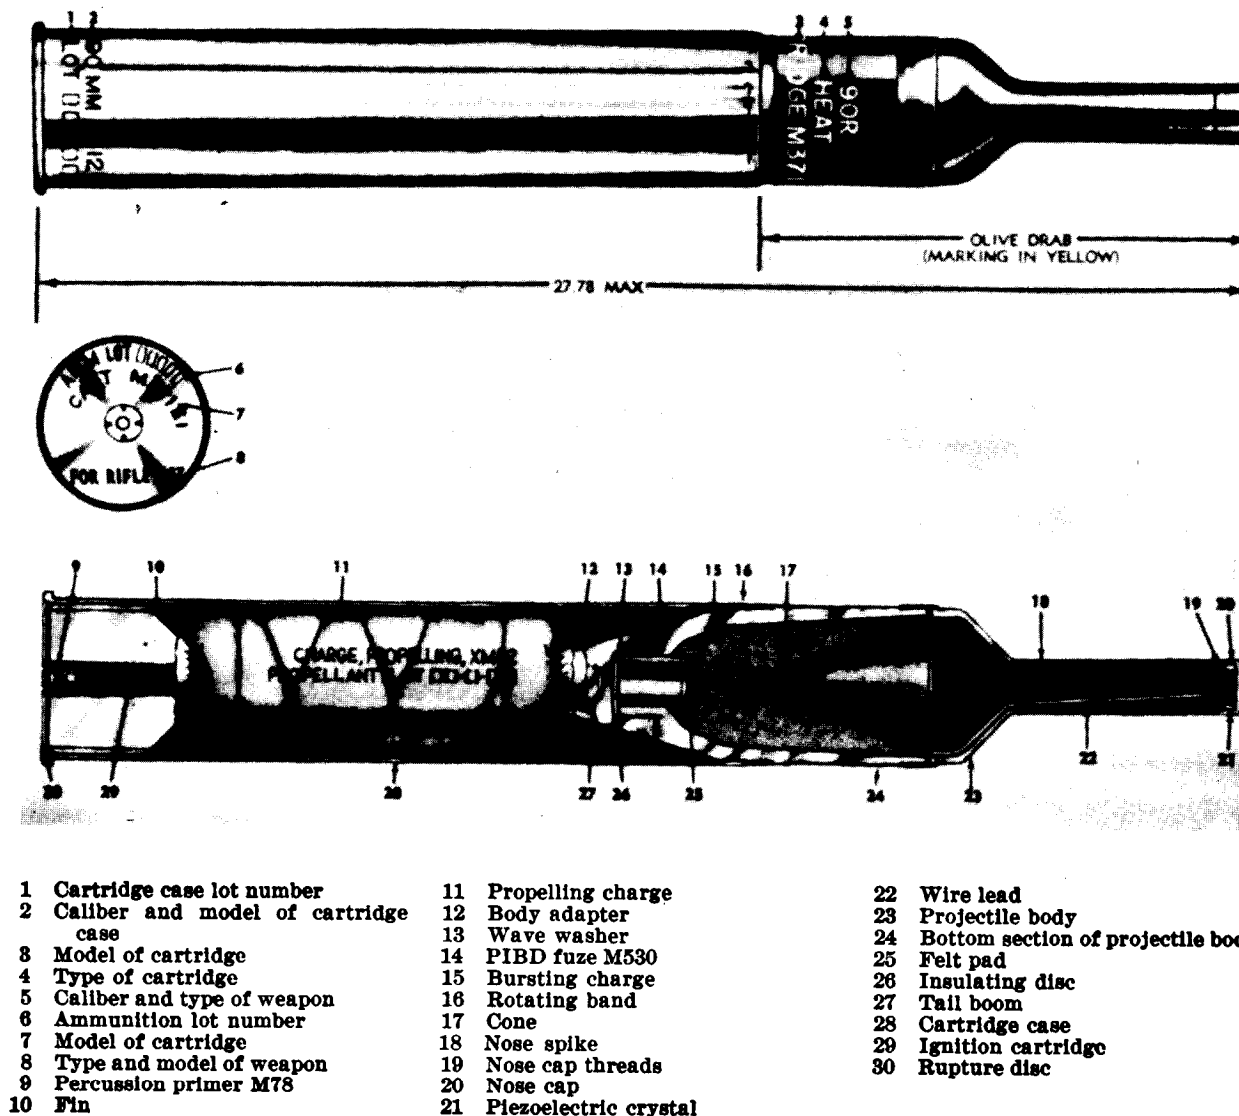

Figure 15. 90mm HEAT cartridge, M371E1.
- a. The high explosive, antitank round (fig. 15) utilizes a special fin-stabilized projectile which employs the shaped-charge principle to defeat armor. It does not depend upon velocity at the moment of impact for its effect. It relies upon a concentration of the effect of the explosive filler through its shape. The conical shape of the filler concentrates the force of the explosion into a hot jet that blows its way through the armor. The shape of the filler is maintained by a metal cone which forms a slug when the filler is exploded. This slug or metal may or may not follow the explosive jet through the armor. The complete cartridge weighs approximately 9¼ pounds. The projectile weighs approximately 6¾ pounds, and has a muzzle velocity of approximately 700 feet per second.